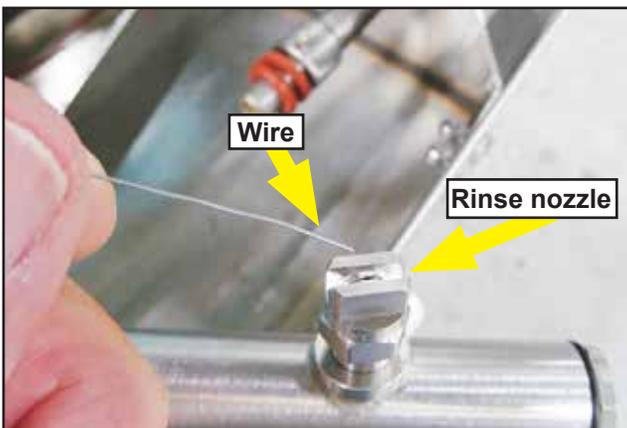

Fig. 75 -
- 3** Use fine piece of wire and clean the rinse spray nozzles to ensure they are not clogged with scale build-up, Fig. 75.